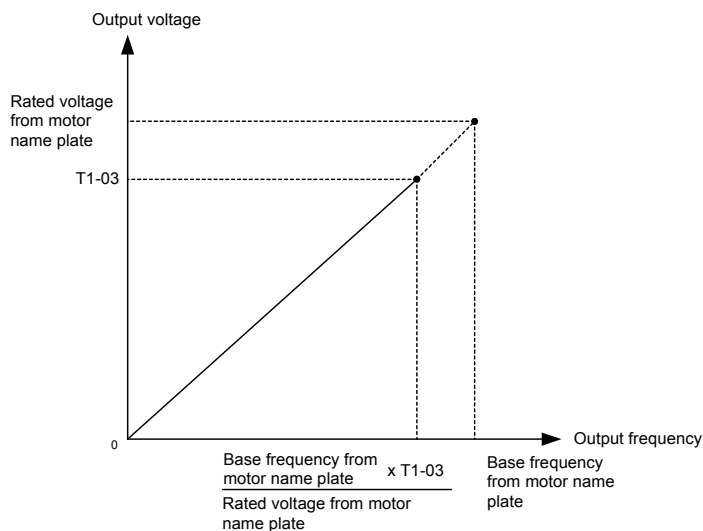

Fig 4.3 Motor Base Frequency and Inverter Input Voltage Setting
- If the motor rated voltage is higher than the power supply voltage, lower the base voltage value like shown in *Fig 4.3* to prevent saturation of the Inverter's output voltage. Use the following procedure to perform autotuning.